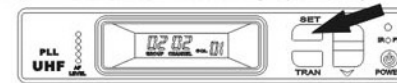

FIGURE 17
a. Press the SET button. the SQL display will flash(Figure 17).